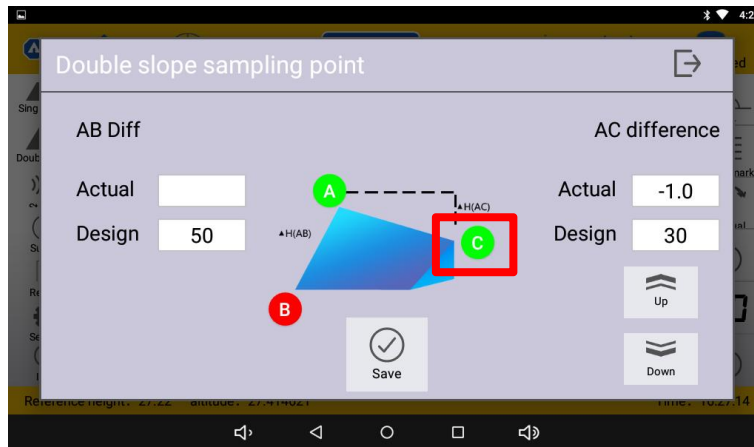

Figure 16
Step5. Click the Up button to lift the blade and drive to the second-highest point C. After clicking the down button to stick the blade to the ground, click the C icon on the interface, and the icon turns green to indicate that the point collection is complete. After the settings of points A and C are completed, the software will display the actual elevation between the AC points. (Figure 16)